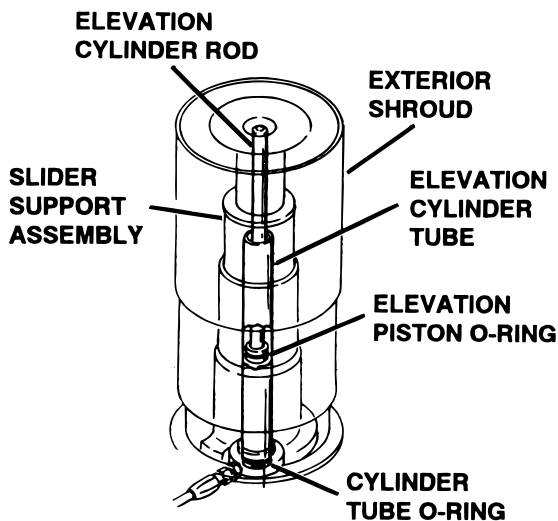

**Figure 1-12. Lateral Tilt Cylinder Assembly**
3. Lateral Tilt Assembly - The lateral tilt assembly consists of two cylinders, pistons and connecting rods. The connecting rods attach to the lateral tilt lever which connects to the table side frames. When hydraulic fluid is pumped into one cylinder, the piston and connecting rod pushes the lateral tilt lever which tilts the table top to one side. To tilt the table top in the opposite direction, fluid is pumped into the opposite cylinder. See figure 1-12.